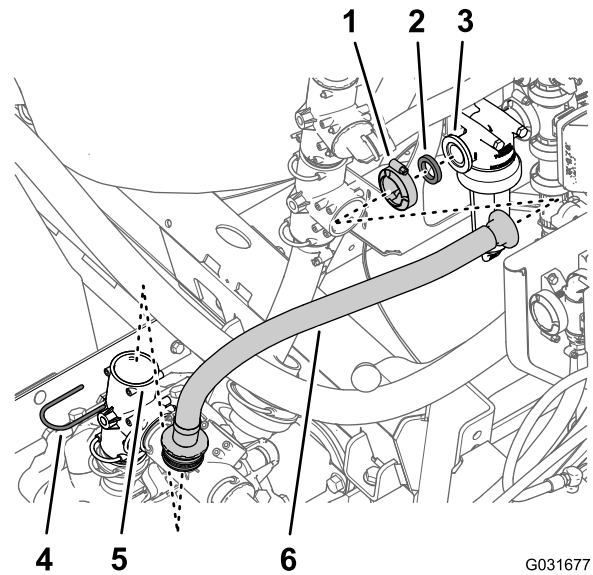

Figure 215
1. Remove the retainer that secures the straight barbed fitting of the supply hose to the T-fitting at the sprayer pump and remove the straight fitting from the T-fitting (Figure 215).
2. Remove the flange clamp that secures the supply hose and gasket to the flange of the filter head and remove the hose from the machine (Figure 215).